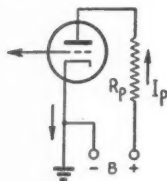

Fig. 1
In Fig. 1 the plate voltage is
*Example:* In Fig. 1,